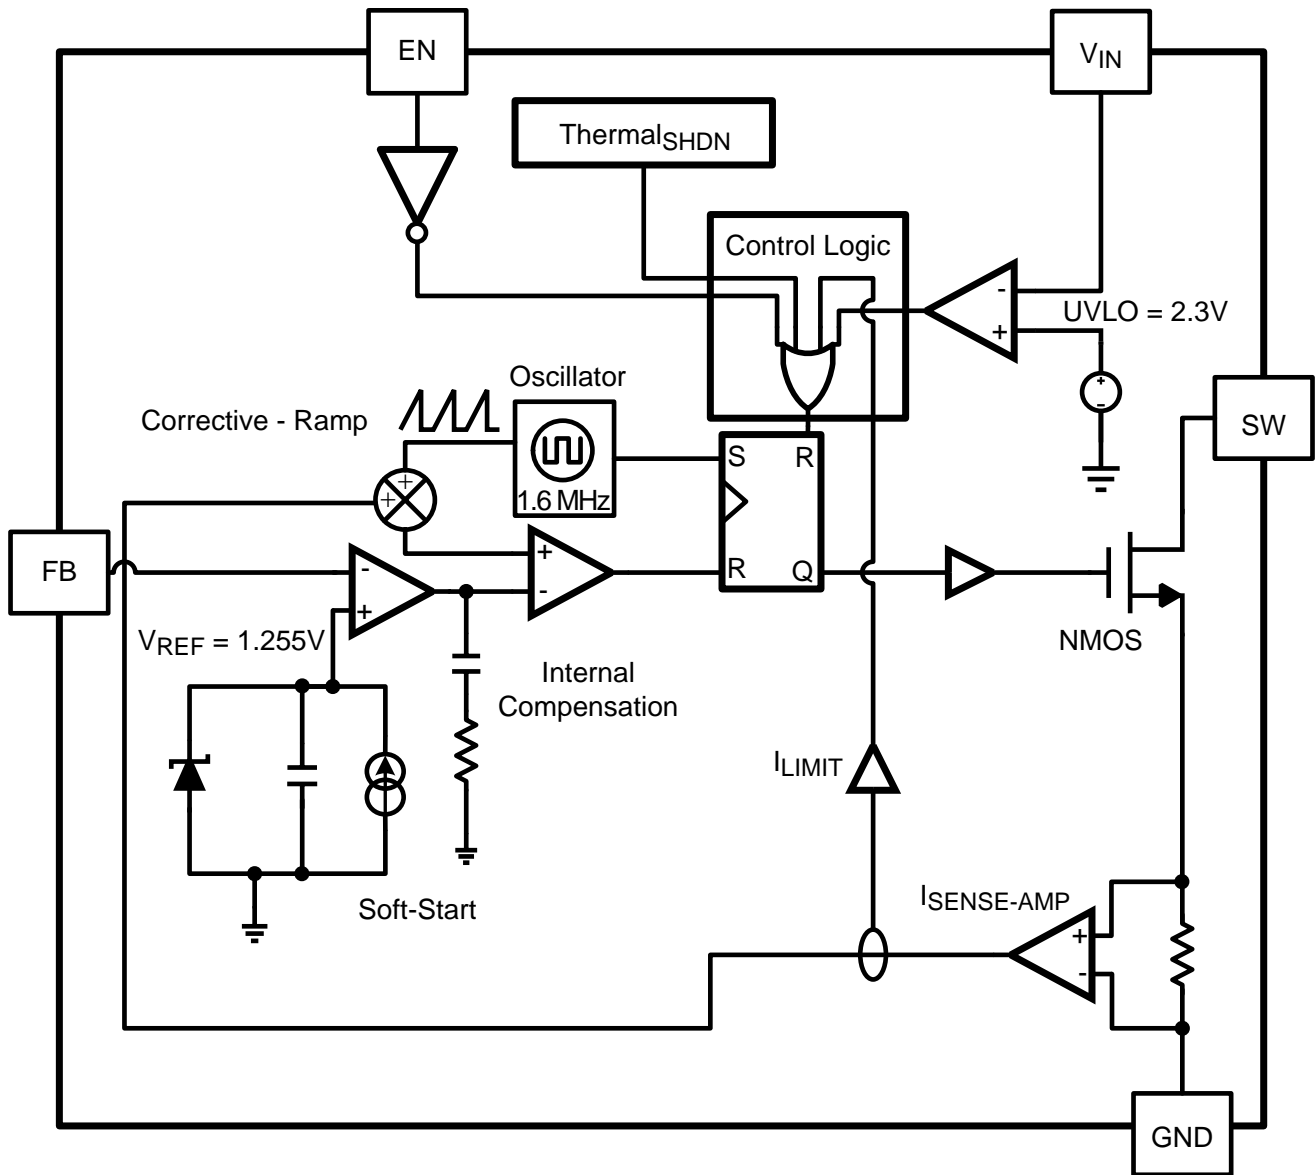

Figure 12. Simplified Block Diagram
The following operating description of the LMR62421 will refer to the Simplified Block Diagram (Figure 12) the simplified schematic (Figure 13), and its associated waveforms (Figure 14). The LMR62421 supplies a regulated output voltage by switching the internal NMOS control switch at constant frequency and variable duty cycle. A switching cycle begins at the falling edge of the reset pulse generated by the internal oscillator. When this pulse goes low, the output control logic turns on the internal NMOS control switch. During this on-time, the SW pin voltage ( $V_{SW}$ ) decreases to approximately GND, and the inductor current ( $I_L$ ) increases with a linear slope.  $I_L$  is measured by the current sense amplifier, which generates an output proportional to the switch current. The sensed signal is summed with the regulator's corrective ramp and compared to the error amplifier's output, which is proportional to the difference between the feedback voltage and  $V_{REF}$ . When the PWM comparator output goes high, the output switch turns off until the next switching cycle begins. During the switch off-time, inductor current discharges through diode D1, which forces the SW pin to swing to the output voltage plus the forward voltage ( $V_D$ ) of the diode. The regulator loop adjusts the duty cycle (D) to maintain a constant output voltage .